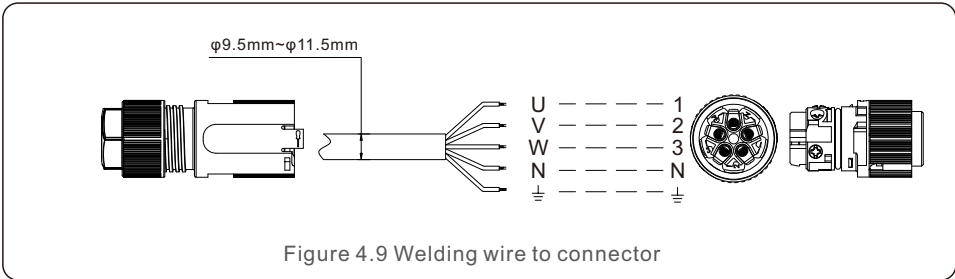

Figure 4.9 Welding wire to connector
- d. Through the cable to the washer and use a suitable screw driver to fix the wire to the connector (see Figure 4.9).